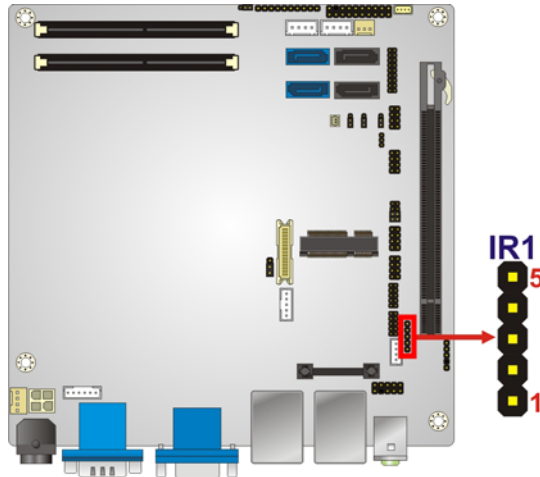

Figure 3-10: Infrared Connector Location
- CN Location:** See **Figure 3-10**